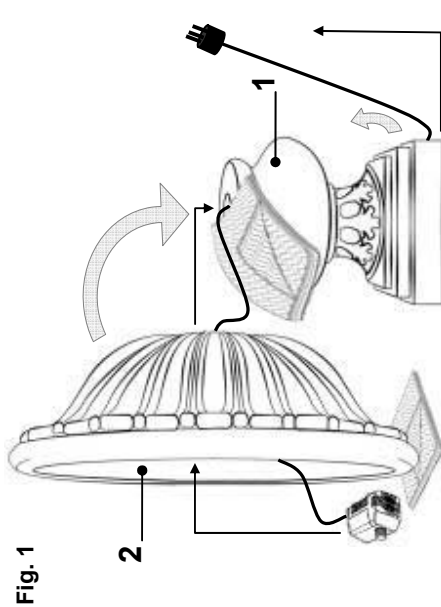

Fig. 1
- Continuing with figure 1, place the pedestal (1) according to pedestal placement recommendations.